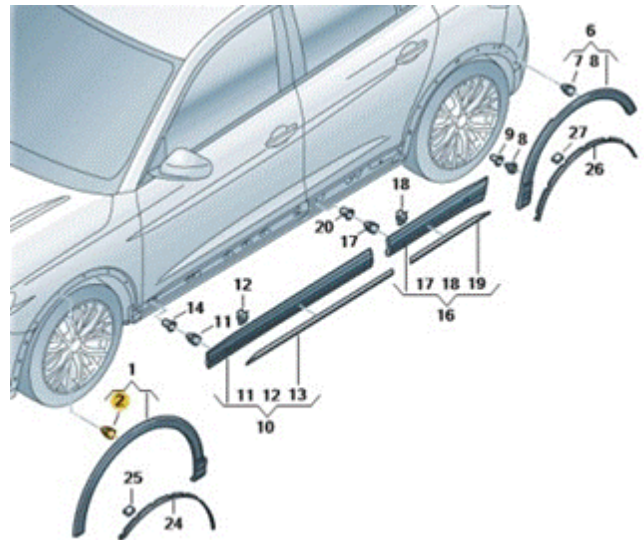

Figure 5. Front wheel arch trim clip location.
2. Replace all the clips on the affected front wheel arch trim. The wheel arch trim does not need to be replaced (Figure 5).